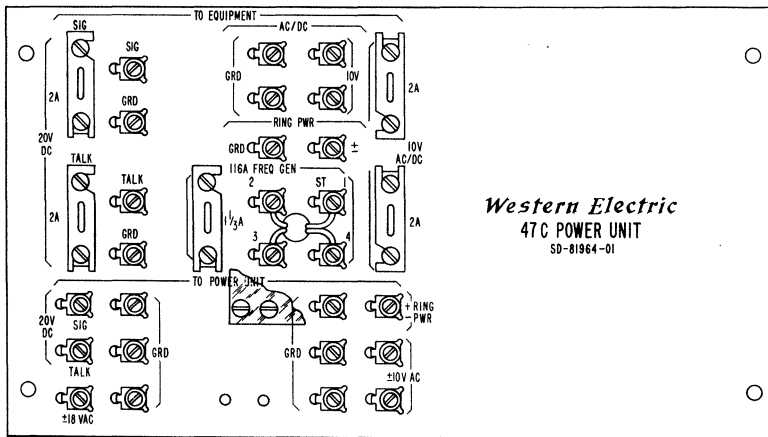

Fig. 3—Wiring Connections for 47C Power Unit
3.01 Charge the battery locally for 16 hours before installation. Install the battery in the 47C power unit and connect to a 19-, 20-, 29- or 30-type power unit (KSU Power Supply). See Fig. 3.
4.04 Connect the pigtail leads from the 116A Frequency Generator to terminals on the front panel (see Fig. 3) as follows: